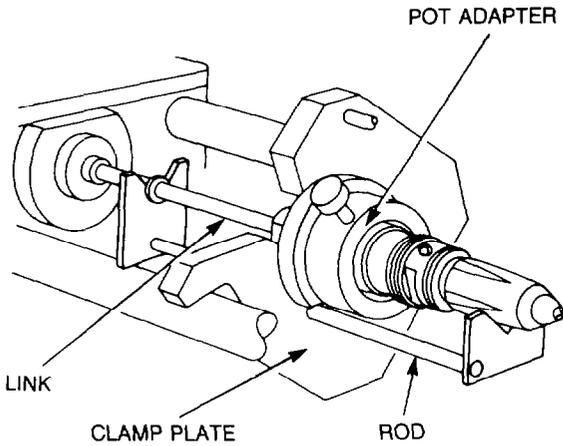

Figure 124 — Test Stand — Injector Installation
- i. Install the injector, pot adapter and injector link into the test stand ensuring that the cut outs on the pot locate on the two rods protruding from the clamp plate (see Fig. 124).